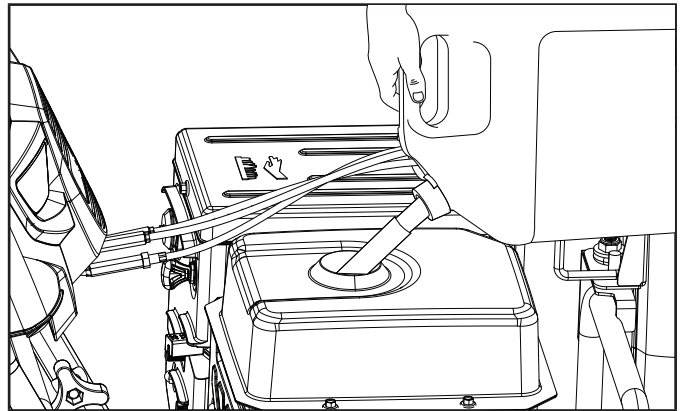

Figure 8
2. Add fuel to the bottom of the fuel level limit in the neck of the fuel tank. Do not overfill. Wipe up spilled fuel before starting the snowblower. Fuel tank capacity: 1.5 gal. (5.8 L) (Fig. 8).